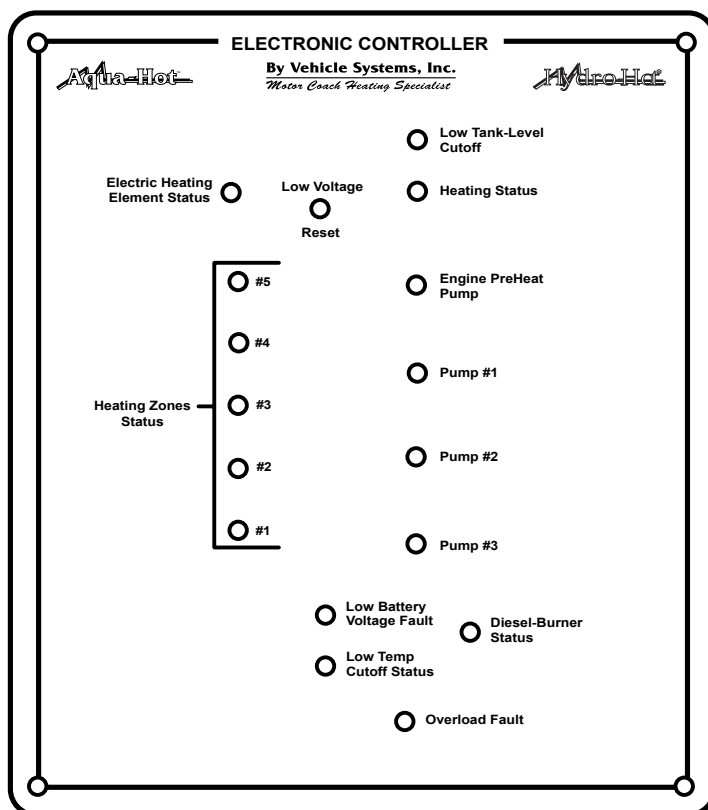

Figure 6
If the Aqua-Hot's Diesel switch "Indicator Light" does not illuminate and the Diesel-Burner is not functioning, locate the Electronic Controller (**Figure 6**) and check the following:
- A. Check the Aqua-Hot's Electronic Controller for any RED lights indicating a fault condition. Reference **Figure 6** and the Electronic Controller Troubleshooting section to identify these fault conditions.